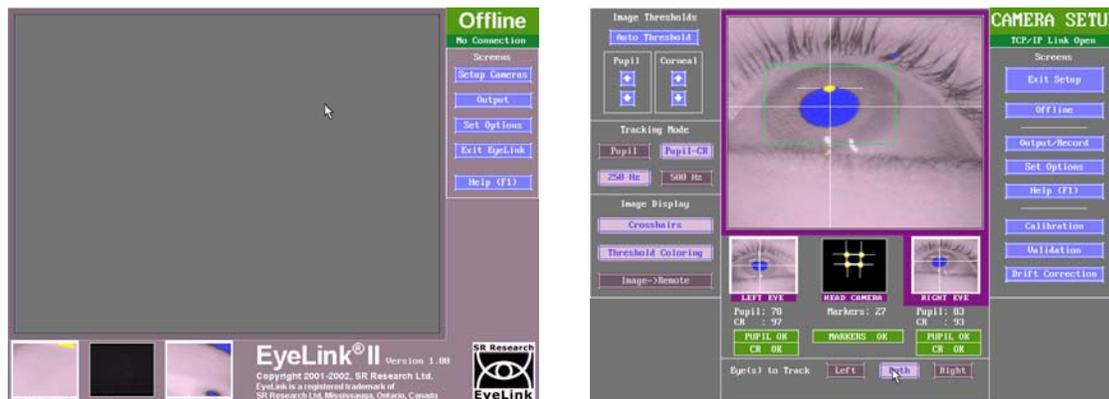

Figure 1-6: Offline Mode (left) and Camera Setup (right)
The EyeLink II Host application should start and you should see the EyeLink II Offline screen illustrated in Figure 1-6 (left). If you see solid, darkly colored images, be sure to remove the camera covers from the eye cameras on the headband.
2. Put on the headband and see that the eye cameras are picking up image as illustrated in Figure 1-6: .